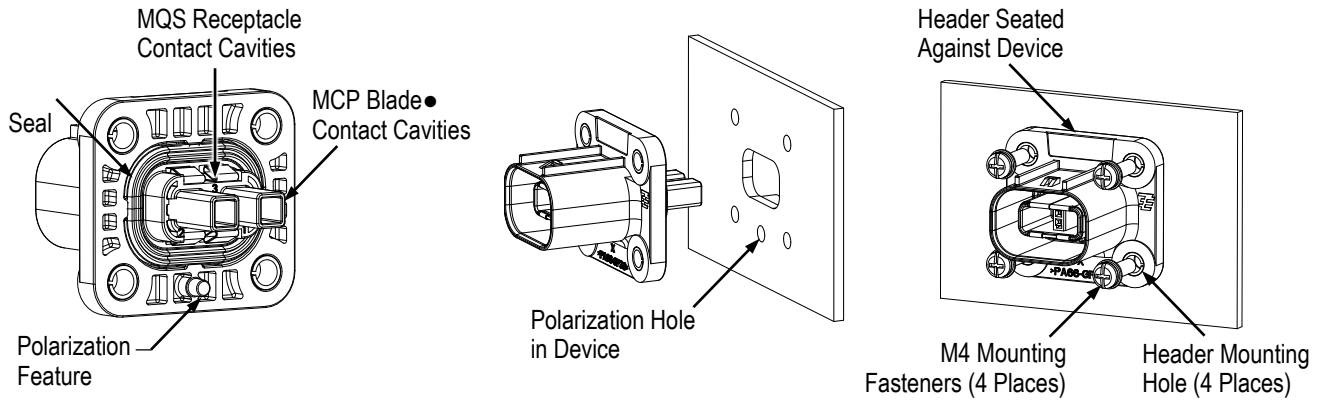

Figure 2
2. Check that the seal is present on the header. Align the polarization feature of the header with the polarization hole in the device, then push the header onto the device until it is seated against the face of the device. Refer to Figure 2.
3. Obtain four M4 mounting fasteners that are compatible and capable of meeting the required torque of 2.5 ± 1 Nm [16.32 ± 7.4 lb-ft]. Insert each fastener through a mounting hole in the header and into the hole in the device. Tighten each fastener to the required torque. See Figure 2.